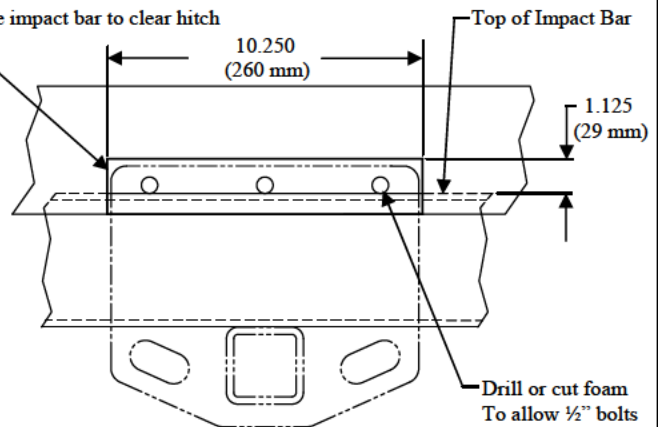

Figure 2
①	Qty. (3)	Hex Bolt - 1/2-13 x 4.500 GR5	②	Qty. (3)	Lock Washer 1/2"
- Trim rigid foam fascia support on both forward and rearward sides of vehicle impact bar as shown in Figure 2 (approximately 10-1/4" wide and 1-1/8" above top of vehicle impact bar) to allow hitch brackets to fit flat against impact bar.